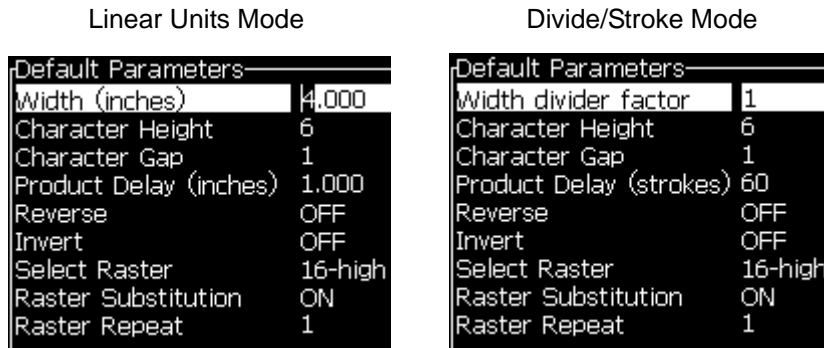

Figure 5-10: Default Parameters Dialog Box
The different parameters that are available (*Messages > Default Parameters*) are shown in Table 5-11, and Figure 5-10 on page 5-30.
- 2 Select the *Default Parameters* (Figure 5-10) to edit the values.